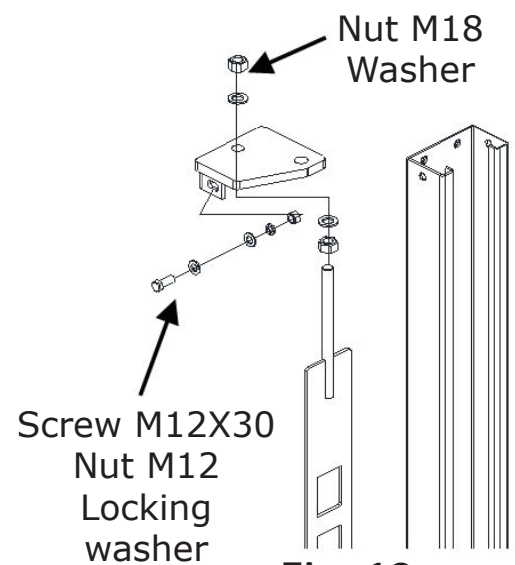

Fig. 12
7.4 Assembly Of Column (Ref. Fig. 12)
- Lower the lift to the topmost latch position to verify if four latches are engaging uniformly. If not, make the adjustment referring to the figure 12.